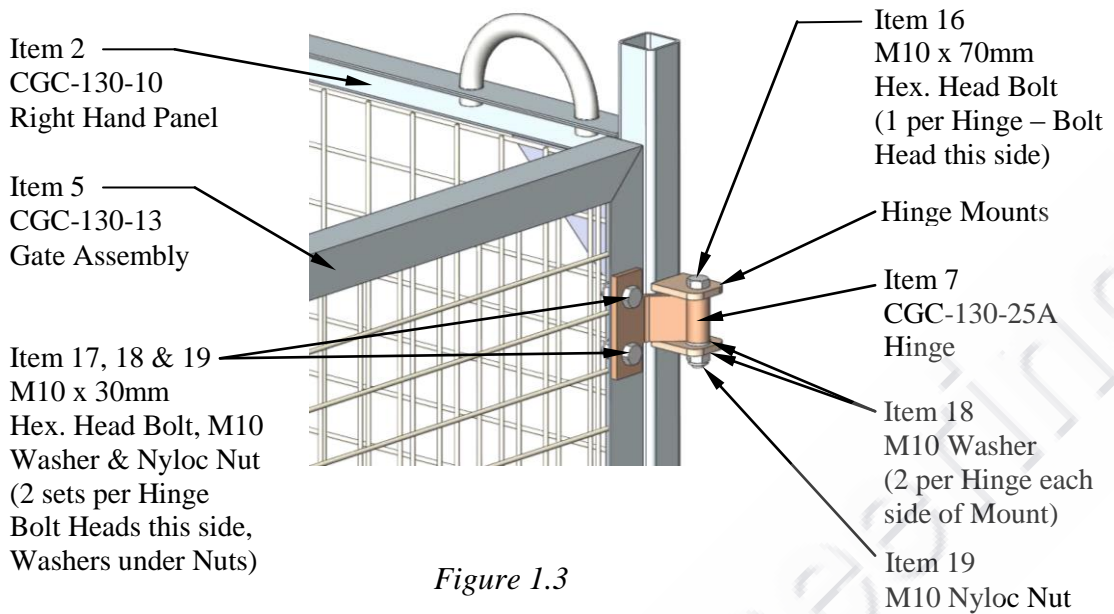
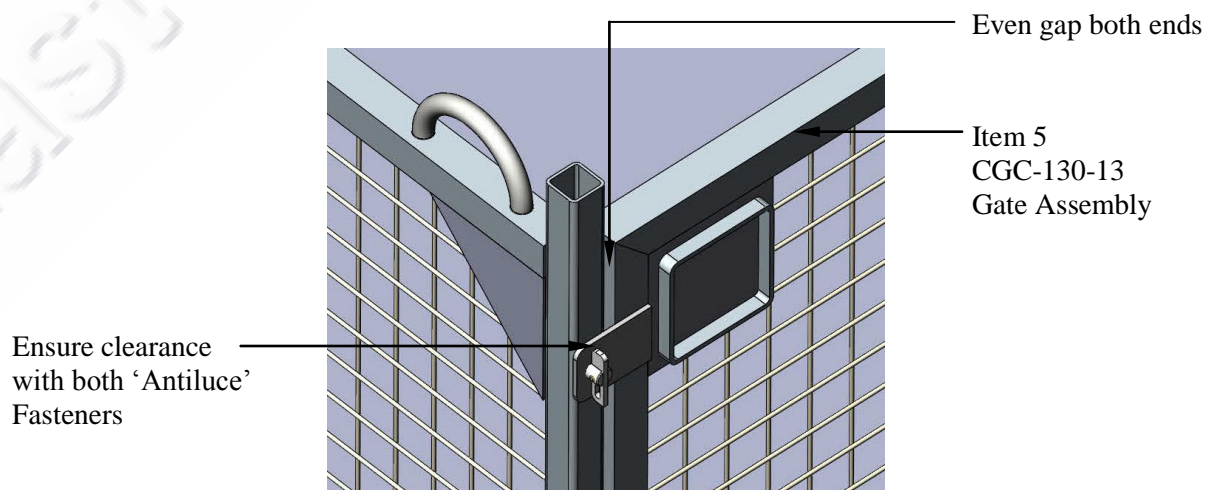

Figure 1.3
Figure 1.4
- G) Position both Hinges (Item 7) orientated as shown in Figure 1.3 above onto the Gate Assembly (Item 5) aligning mounting holes with those in the Gate. Loosely assemble together using two (2) M10 x 30mm long Hex. Head Bolts (Item 17), M10 Flat Washers (Item 18) and M10 Nyloc Nuts (Item 19) per Hinge, with the bolt heads positioned on the outside of the Frame/Hinge as shown in Figure 1.3 above.
- H) Fit the Gate Assembly onto the Hinge Mounts on the Right Hand Panel as shown in Figure 1.3 above. Loosely assemble the Hinges to the Hinge Mounts using one (1) M10 x 70mm long Hex. Head Bolt (Item 16), M10 Flat Washers (2) (Item 18) and M10 Nyloc Nut (Item 19) per Hinge, with the bolt head positioned at the top of the Hinge Mounts as shown in Figure 1.3 above.
- I) Ensure the Gate Assembly has been orientated as shown in Figure 1.3 above and closes onto the 'Antiluce' fasteners as shown in Figure 1.4 below without interference to allow the Gate to swing externally. This should result in the Gate being aligned with the top of both Side Panels and have an even gap with the Side Panels each end. Tighten all Bolts/Nuts securing the Hinges to the Gate and then the Bolts/Nuts securing the Hinges to the Hinge Mounts.